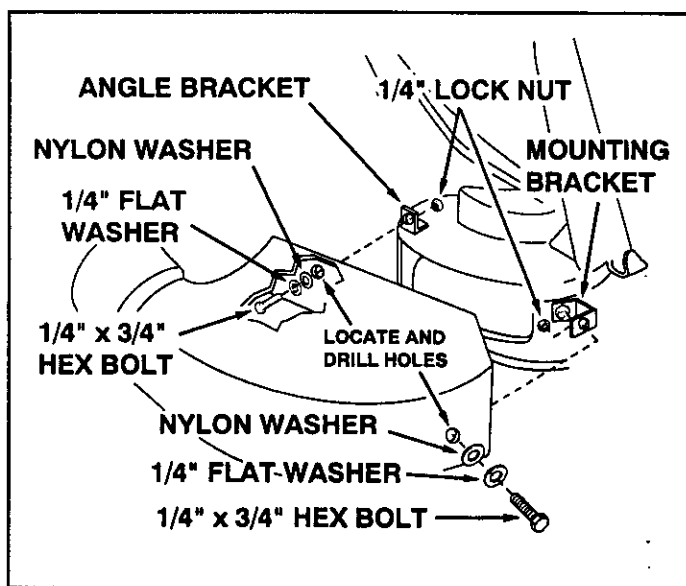

FIGURE 32
- Fasten the angle bracket and the mounting bracket to the mower deck as shown in figure 32. Use two 5/16" x 3/4" carriage bolts, 5/16" flat washers and 5/16" lock nuts. The bolt heads go on inside of mower deck.
- Drill two 5/16" diameter holes in the deck adapter that will align with the holes in the angle bracket and the mounting bracket. Assemble the deck adapter to both brackets using two 1/4" x 3/4" hex bolts, 1/4" flat washers, nylon washers and 1/4" lock nuts. See figure 32.